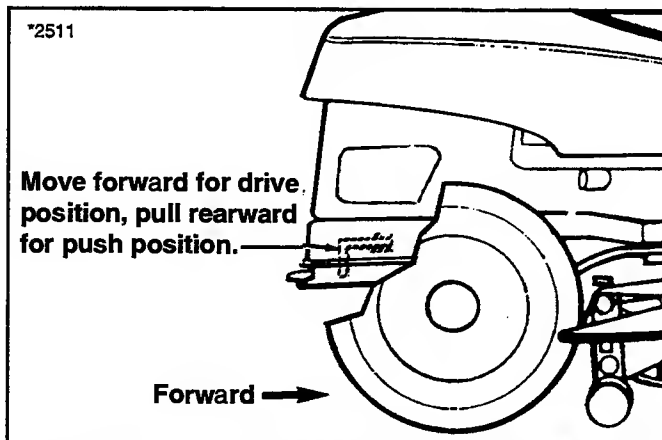

Figure 12. Transaxle Release Lever - Hydro Models
3. See figure 12. To push the rider by hand, the release lever must be placed in the PUSH position.